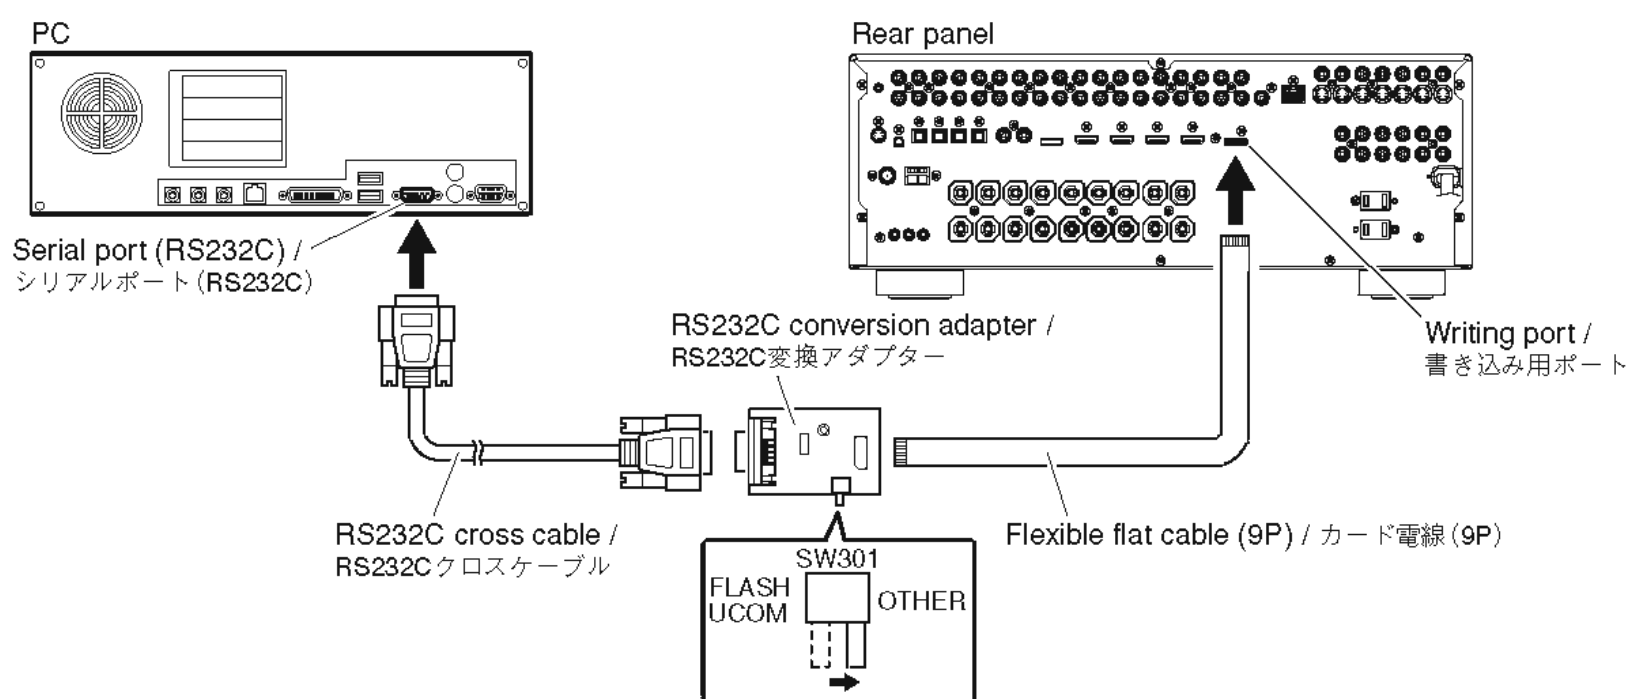

Fig. 1
2. Set the switch (SW301) of RS232C conversion adapter to the "OTHER" side. (Fig. 1)
3. Connect the writing port of this unit to the serial port (RS232C) of the PC with RS232C cross cable, RS232C conversion adapter and flexible flat cable as shown below. (Fig. 1)